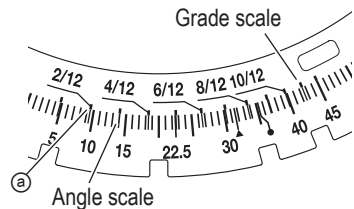

Fig. 39
- (1) Unlock the miter table by lifting up on the miter lock handle.
- (2) While lightly pressing down on the positive stop lever until it engages the detent lever, grasp the miter lock handle and rotate the table left or right to the desired angle.
- (3) Once the desired miter angle is achieved, press down on the miter lock handle to secure the table into position.
- (4) If the desired miter angle is one of the nine positive stops noted below, please see the Miter detent lever section on page 27.
- (5) Turn the LED light on and position the workpiece on the table for pre-alignment of your cut.
- (6) The miter scale (Fig. 39) indicates both the cutting angle on the angle scale and the gradient on the grade scale.
- (8) Therefore, to cut a workpiece at a grade of 2/12, set the indicator to position (a) as indicated in Fig. 39.